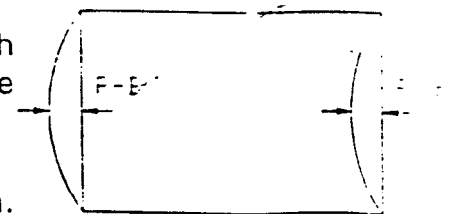

Figure 10
3. Press and rotate the Encoder to let  $P-B \leq 1.5$  mm. (See Fig 10).